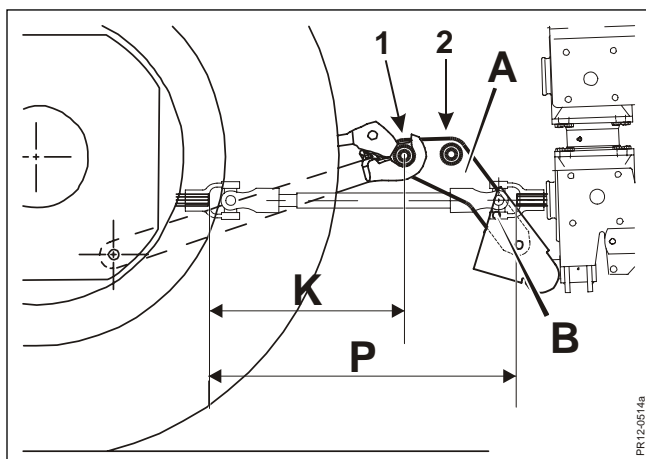

Fig. 2-2
- Fig. 2-2 The extension links **A** are shock absorbers in the Top Safe system, which is standard on the machine. On the extension links there are two possibilities for placing the draw pins, depending on whether the lower link arms on the tractor are short or long.
- Fig. 2-2 **SHORT LOWER LINK ARMS:**